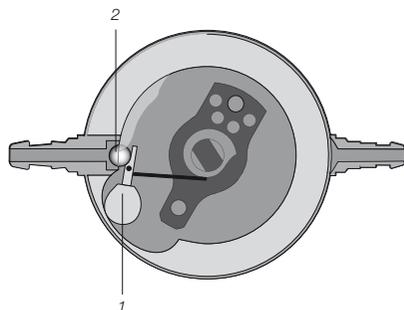

Fig. 10: adjustable gravitational unit in horizontal position
With the *proSA* in the horizontal position (Fig. 10), the weight (1) does not affect the sapphire ball (2). Hence, in this configuration the *proSA* is open, and the force brought to bear by the weight does not counteract the fluid pressure. The ventricular pressure is now controlled solely by the differential-pressure valve installed.